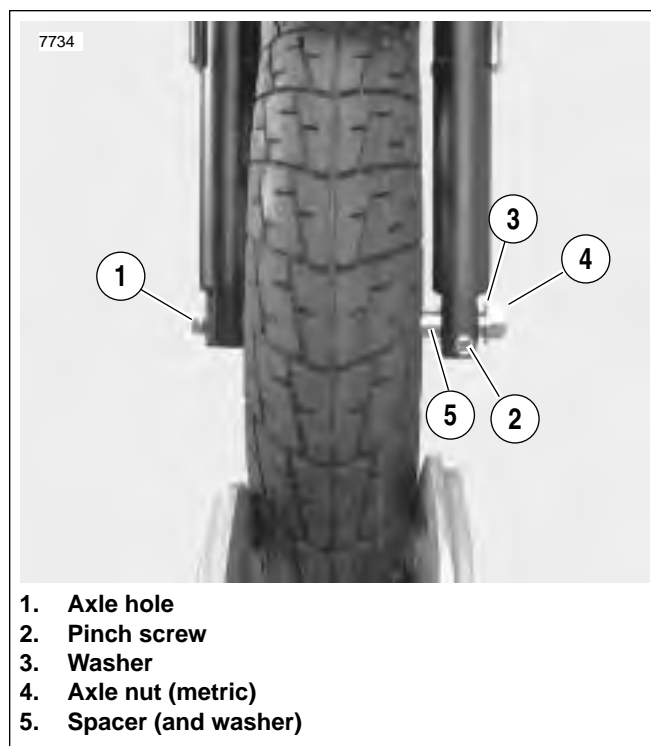

Figure 2-6. Front Wheel Mounting
5. See Figure 2-6. Insert screwdriver/rod through axle hole (1). Loosen front axle nut (4).
6. Loosen pinch screw (2).